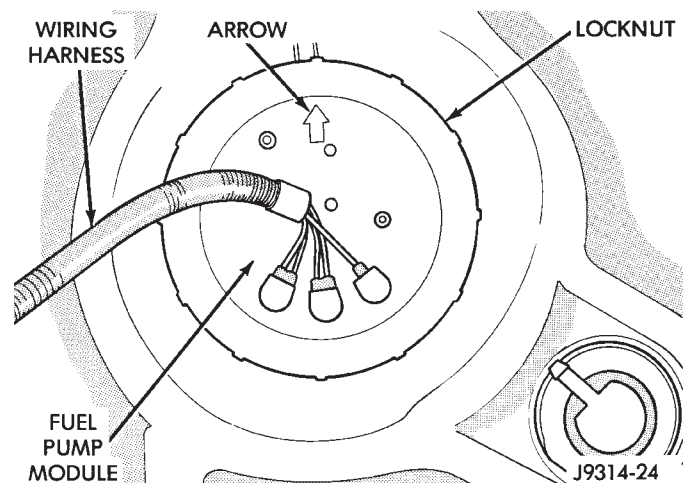

Fig. 2 Top View of Fuel Pump Module
(1) Drain and remove the fuel tank. Refer to Fuel Tank removal and installation in the Fuel Tank section of this group.
(2) The fuel pump module locknut is threaded onto the fuel tank. Remove the fuel pump module locknut (Fig. 2). The fuel pump module will spring up from the fuel tank after the locknut has been removed.
CAUTION: The arrow on the top of the fuel pump module must be facing in the direction shown in Figure 2.